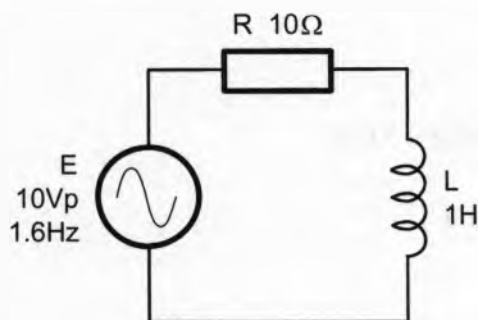

Figure 7a
So far, we have seen that resistors dissipate power but inductors and capacitors don't. Now let's consider what happens in RL and RC circuits. Figures 7a and 7b below show an RL and an RC circuit. Beneath them is a sufficient analysis of the circuits to find the power dissipated by the resistor and the reactive power of the inductor or capacitor.
As apparent power consists of reactive power (which is energy that is not dissipated), the watt cannot be used for its unit of measurement. However, apparent power also consists of real power so the *volt-ampere reactive* cannot be used either. Instead, the *voltampere* (VA) is used. So, the apparent power (S) of the circuits in Figures 7a and 7b is: $S = I \times V = 0.5A \times 7.07V = 3.54VA$.
The power factor of the circuits in Figures 7a and 7b is: